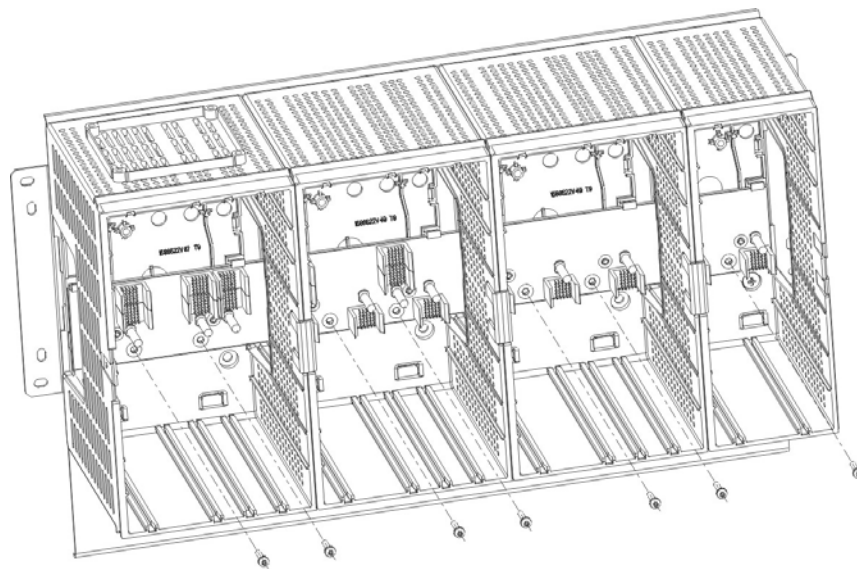

Figure 29-2 ACE3600 Motherboard on Metal Chassis
3. Unscrew the M5 screws on each side which secure the motherboard to the metal chassis. Save the screws. See Figure 29-2.